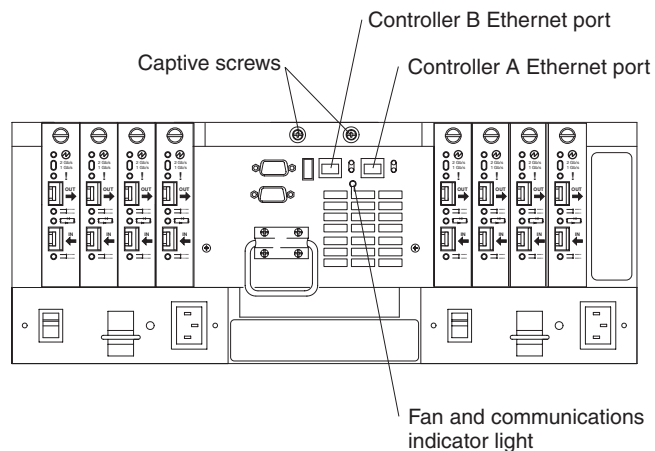

Figure 41. Fan and communications module ports and indicator light
5. Check the fan and communications indicator light. See Figure 41 for the location of the fan and communications indicator light.